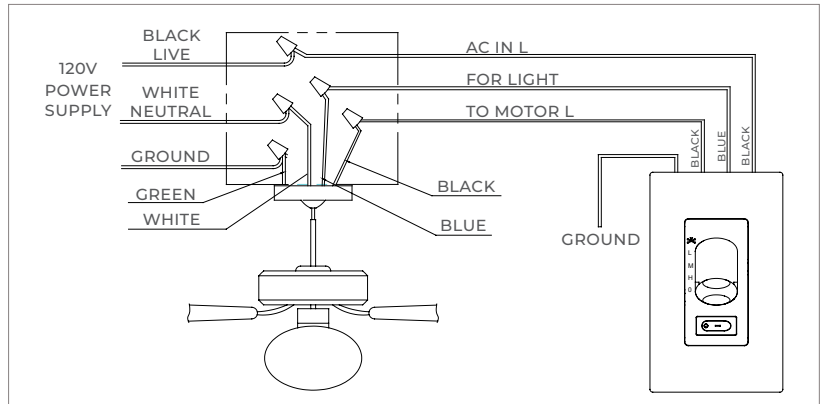

FIGURE 1
**C)** Make wiring connections and secure with provided wire nuts. (Figure 1)